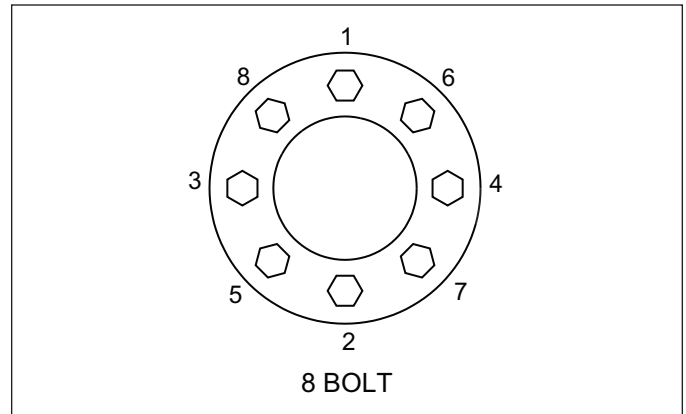

Figure 2-6: Stud Tightening Sequence
2. Re-Install the 5/8-18 Wheel Nuts and tighten to 50 ft-lbs using the sequence in Figure 2-6. Then tighten to full torque of 130-150 ft-lbs.